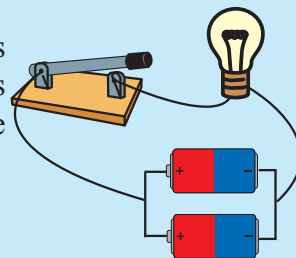

Figure 10.8 ▲
- Then, connect the cells to bulbs and switches as shown in Figure 10.8 and 10.9. Close the switches in each instance and observe the brightness of the bulbs.